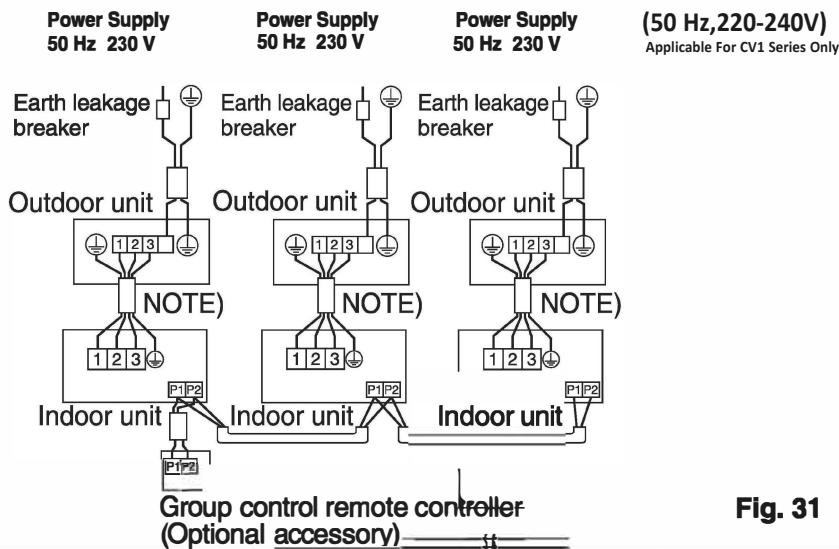

Fig. 31
- **Group control:** 1 remote controller controls up to 16 indoor units. (All indoor units operate according to the remote controller) (Refer to Fig. 31)